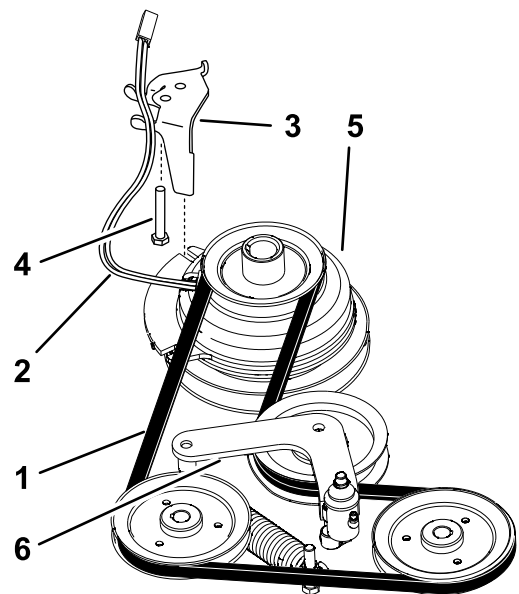

Figure 53
- Remove the bolt from the clutch stop and unplug the clutch electrical wire (Figure 53).
- Remove the traction belt from the engine and the hydraulic pump pulleys (Figure 53).
- Install the new belt around the engine and the hydraulic pump pulleys (Figure 53).
- Release the pressure on the spring loaded idler (Figure 53).